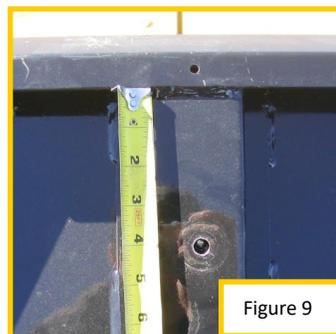

Figure 9
Put the hoods back together so the bolt goes through the other hood and screw the knob on to clamp the hoods together. (see Figure 9) With all hoods on the combine place the middle support bracket between the hoods. You have to push the hoods apart to get the bracket in-between the hoods. The hoods sit in-between the plates the middle support bracket. This will keep your hoods at the correct spacing and height. (see Figure 10) Position the middle support bracket so the pipe is at the splice of the hoods. Make sure the bracket is below the top of the hood and drill a 1/4" holes through the hood and the back tab of the bracket. Use the holes in the bracket as a template. Insert the 1/4" x 1-3/8" quick lock pins to secure the bracket in place. (see Figure 10) Repeat for other side.
Step 2: Front Rolltube Assembly Installation (See Figure 9)